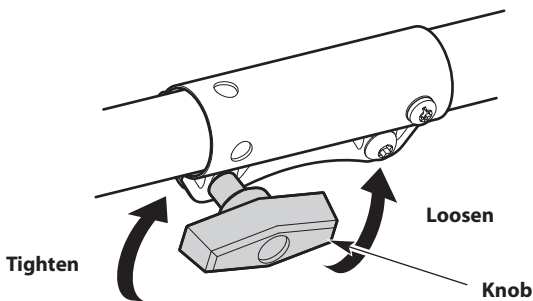

Fig. 1
3. Turn the knob counterclockwise to loosen the coupler (Fig. 1).
5. Turn the knob clockwise to tighten the coupler (Fig. 1).
2. Turn the knob counterclockwise to loosen the coupler (Fig. 1).